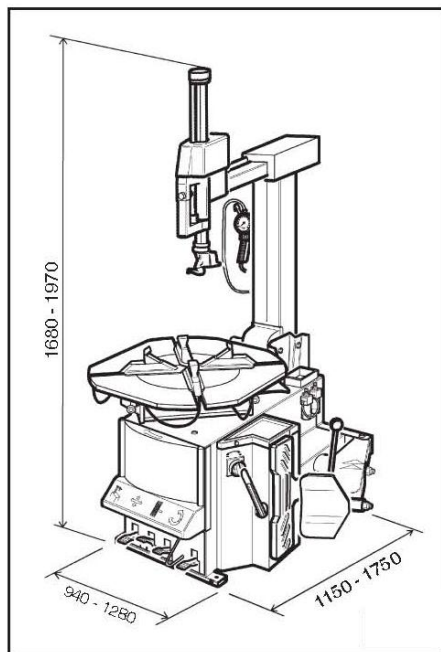
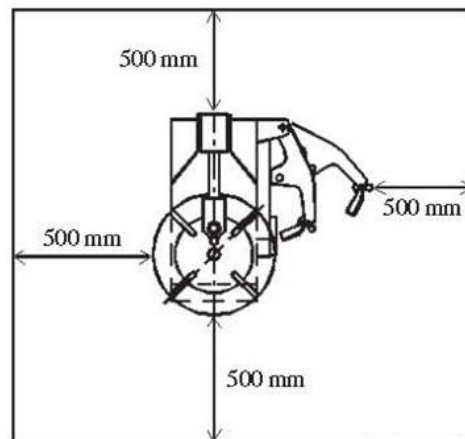

Fig. 3-1-1
Fig. 3-1-2
- The space around the machine must respect the minimum dimensions indicated (see Fig. 3-1-1 and Fig. 3-1-2) in order to allow the correct operation of all parts of the machine without restriction.